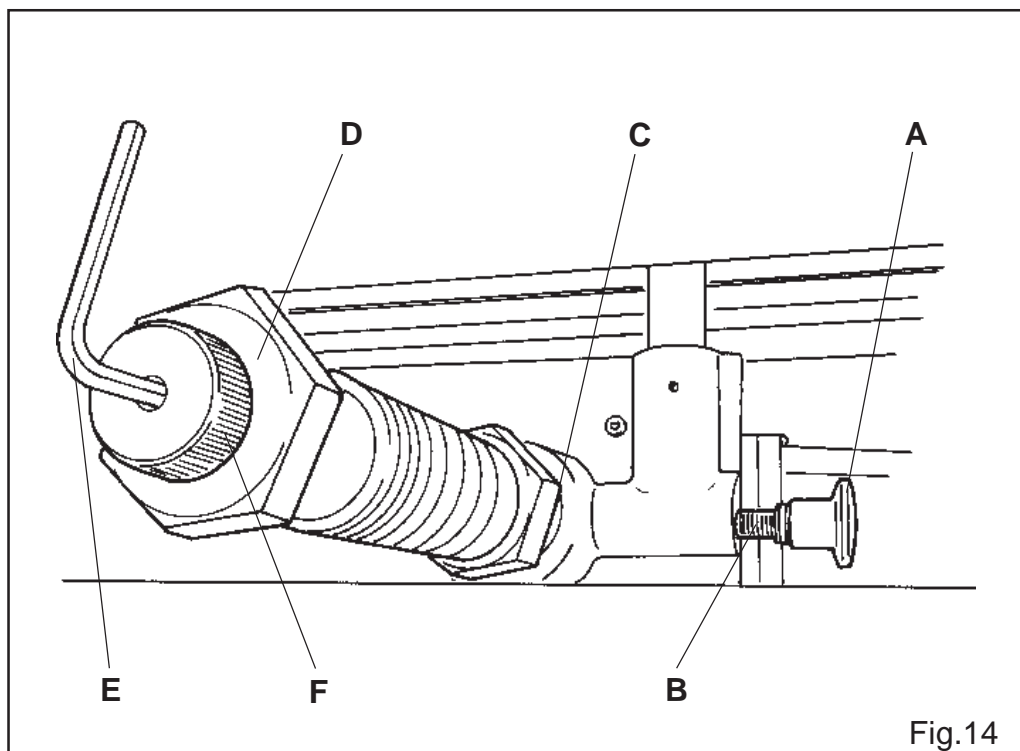

Fig.14
- Press button A ( Fig.14)until pin B go inside the special hole situated on shaft C ( Fig.14) spindle holder D (Fig.14) blocking it.
- Insert the special hexagonal spanner E in nut F (Fig.14) blocking spindle D (Fig.14), turning it in anti clockwise direction in order to loosen the nut.
- Take off nut F ( Fig.14) blocking the cutter group
- Take off the cutter block spindle D ( Fig.14 ) lifting it.
- Insert the new cutter block spindle blocking it through the appropriate nut F (Fig.14) using spanner E (Fig.14).